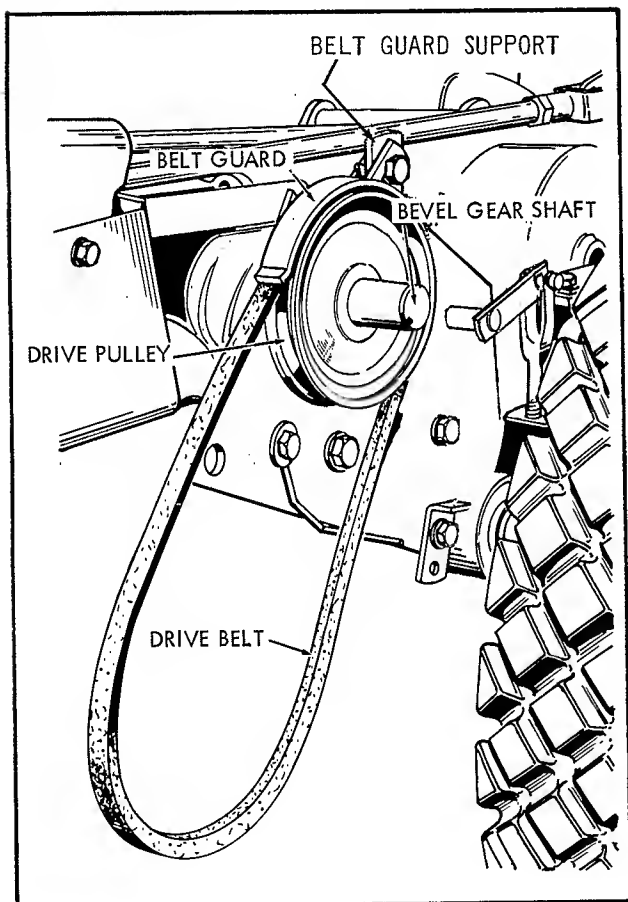
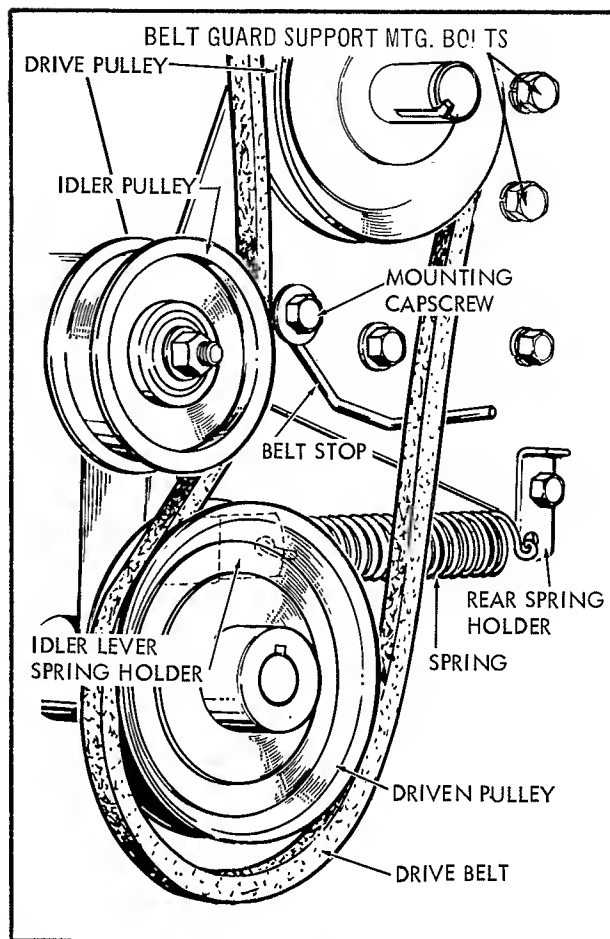

Fig. 1
Fig. 5
1. Mount "V" pulley to shaft of bevel gear assembly (see figure 1) and secure in place with key and set screw. Hub of "V" pulley is to face inward. Place drive belt on "V" pulley and mount belt guard support to inside surface of side plate nearest drive pulley. See figure 5 for mounting bolt location. Attach the belt guard to the guard support as shown in figure 1. Allow approximately $3/16$ " clearance between belt and guard.
5. Mount "V" belt in place on driven pulley as shown in figure 5 and attach spring to bottom hole in the spring holder and hook other end of the spring to the idler lever spring holder. Mount belt stop as shown with 3/8" bolt, flat washer, lockwasher and hex nut. When idler pulley is engaged, 1/8" clearance between belt stop and back of "V" belt is required. Note: "V" belt runs under idler pulley. See figure 5.